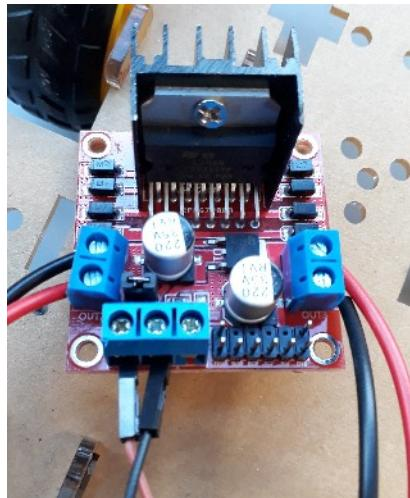

Figure 15: Brown and black wires added to the motor driver board (bottom left). You can use any color wire.
Step 13: Once you have wired up the wires carrying current to the motors, you then need to add the wires carrying power to the circuit board from the battery. Choose two wires with two male ends and add them screw them into the circuit board as show in figure 15. I've used brown and black wires, but you can use any color wires you want.